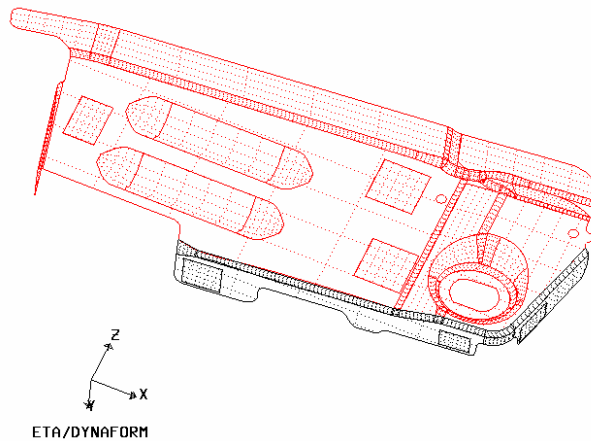

Figure 6.1.2 Select Flange Surface
- Once this function is selected, DYNAFORM opens the SELECTED SURFACE window to select flange surfaces to be unfolded. Refer to Figure 6.1.2 for typical surfaces with the defined flange highlighted.